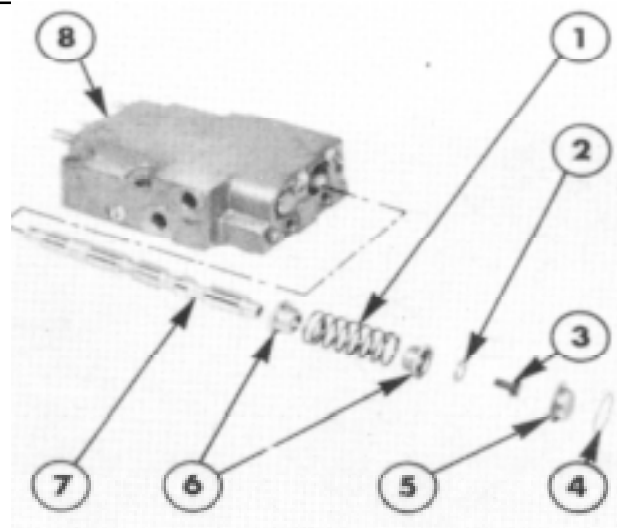

Figure 12
3. Remove the centring spring retaining screw and separate the washers, spring cups and spring, Figure 12.